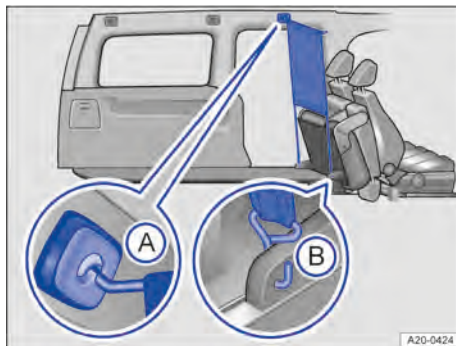

Fig. 150 Behind the folded-down second row of seats: installed net partition.
2. Hook the net partition into the *front left* → Fig. 150 Ⓐ holder in the roof. Ensure that the transverse rod is pulled up over the upper position so that it latches securely in the slots.
4. Hook the net partition into the seat anchor points → Fig. 150 Ⓑ.